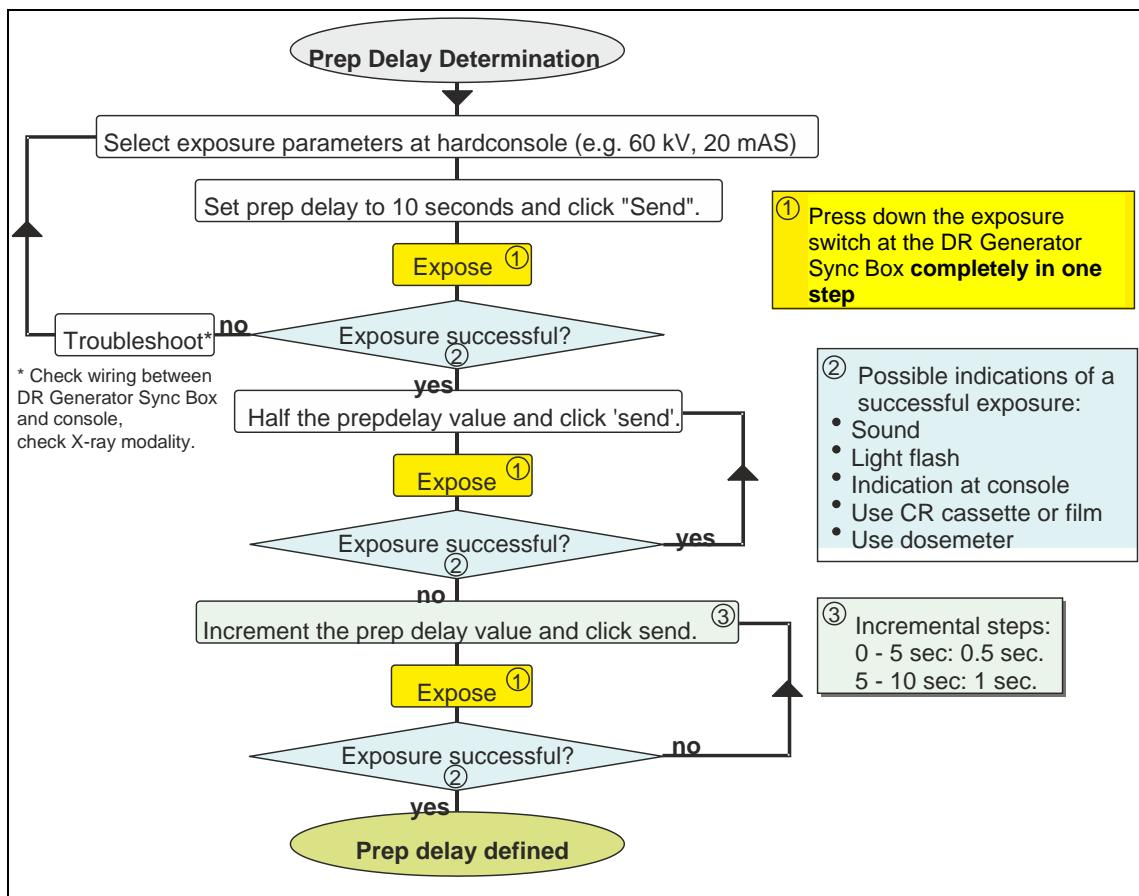

Figure 6
- (6) Switch on the X-ray system.
- (7) Click **Manual Calibration**.
- (8) Click **User Mode**.
- (9) Adapt exposure settings.
- (10) Determine prep delay according to Figure 6.
- (11) Close the generator TechServ software.
- (12) Switch off the X-ray system.